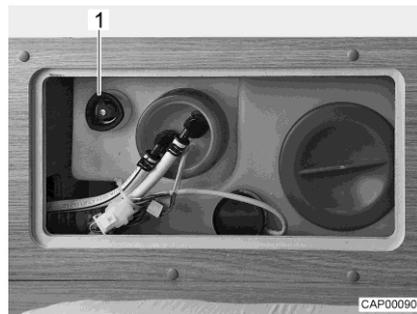

Fig. 123 Water tank with rotary handle
- Turn the rotary handle (Fig. 123,1) on the water tank in a clockwise direction as far as it will go.
- Turn the rotary handle (Fig. 123,1) on the water tank in an anticlockwise direction as far as it will go. Excess water will drain away leaving approx. 20 litres in the tank.